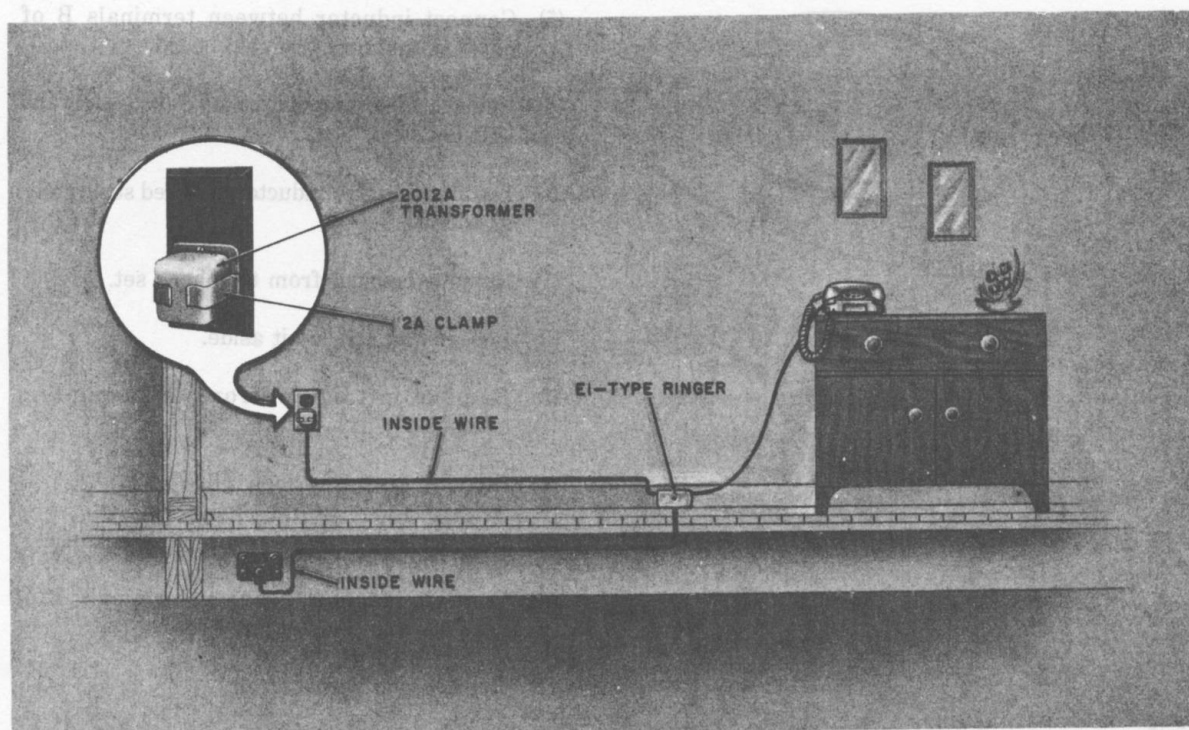

Fig. 5—Typical Installation of 701B Telephone Set
3.04 When an external ringer is required, install an E1-type or F1A with each 701B telephone set. Fig. 5 shows the E1 but is typical for the F1.